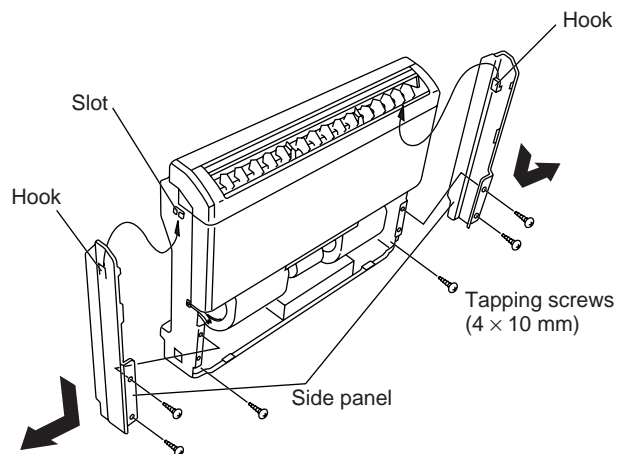

Fig.3
- (1) Remove the 3 screws attaching the left side panel. (Fig. 3)
- (2) Note the position of the hook on the inside of the left side panel. To disengage the hook from the slot, slide down the panel for removal. (Fig. 3)
- (3) Do the same procedure for the right side panel.